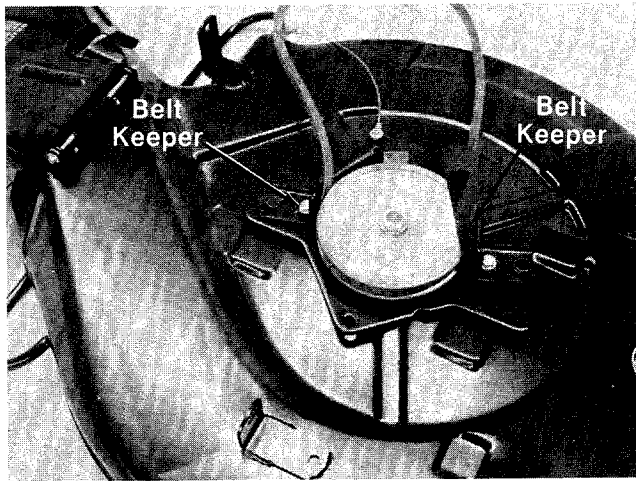

FIGURE 26.
10. Remove the two belt keepers on the deck. See figure 26.